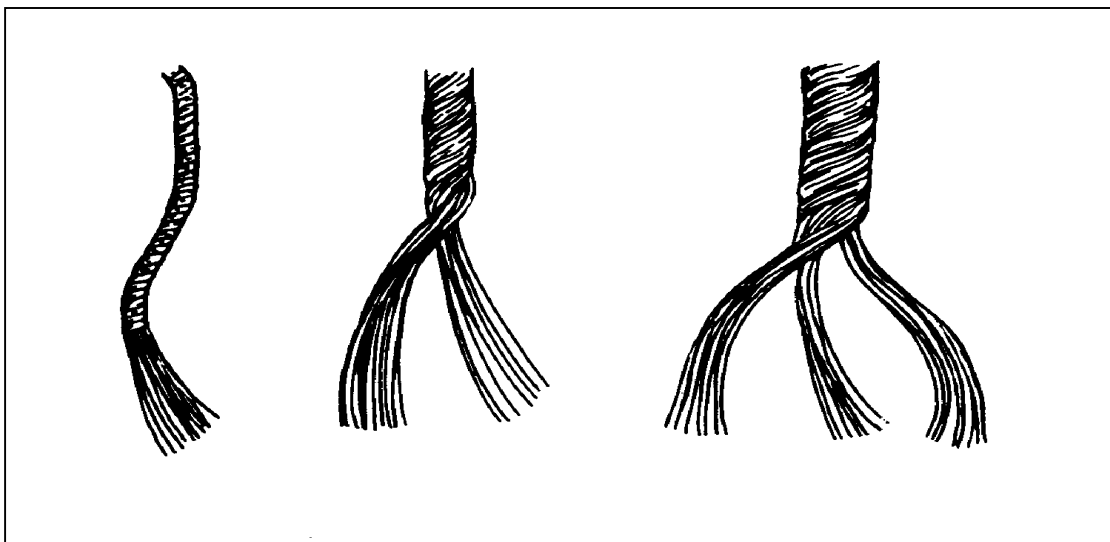

Figure 2-2. Single-ply, two-ply, and three-ply thread
a. Shears or Craftman's Knife. Shears (1) are used to cut the fabric and thread. Their handles are also used to put a crease in a piece of fabric. Sharpen the points and edges regularly to make cutting easier and more accurate. Lubricate the screw when necessary, and wipe the shears clean. Do not use shears to cut anything heavier than fabric, because it will dull the blades. Craftman's knives (2) are used to rip out stitching and to open or lengthen buttonholes. Tighten the blades when they are loose. Replace the blades when they become dull.
b. Pins, Needles, and Thimbles. Straight pins (3) are used to hold two or more layers of fabric together during sewing. Needles (3) are used to pierce fabric and to pull thread through cloth to make stitches. Needles come in various sizes. Some may have longer eyes. Use only clean, sharp needles and pins. A thimble (3) is a metal cap which is placed over the middle finger of the sewing hand to protect the finger and to make it easier to push the needle through heavy material or several layers of fabric. Although a thimble is awkward to wear, its use is encouraged to prevent injuries.
c. Thread. Thread (4) is used to sew two or more layers of cloth together. It may consist of a single strand called a ply or several strands which have been twisted together to make a stronger thread (Figure 2-2, page 2-3). A two-ply thread consists of two strands, a three-ply thread consists of three strands, and so on. Thread is made of cotton, nylon, or polyester. It comes in various colors and weights. To mend an item, use the same color and type of thread that was used to make the item.
d. Ruler or Measuring Tape. A ruler or measuring tape (5) is used to gage accurately the length and width of seams and hems.
e. Tailor's Clay Chalk. During inspections, yellow or white tailor's clay chalk (6) is used to mark defects. During sewing operations, it is used to mark seam-stitching and hem-stitching guidelines on cloth.